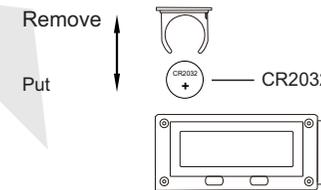

fig.1
- Install the battery, the positive side should face out (fig.1)